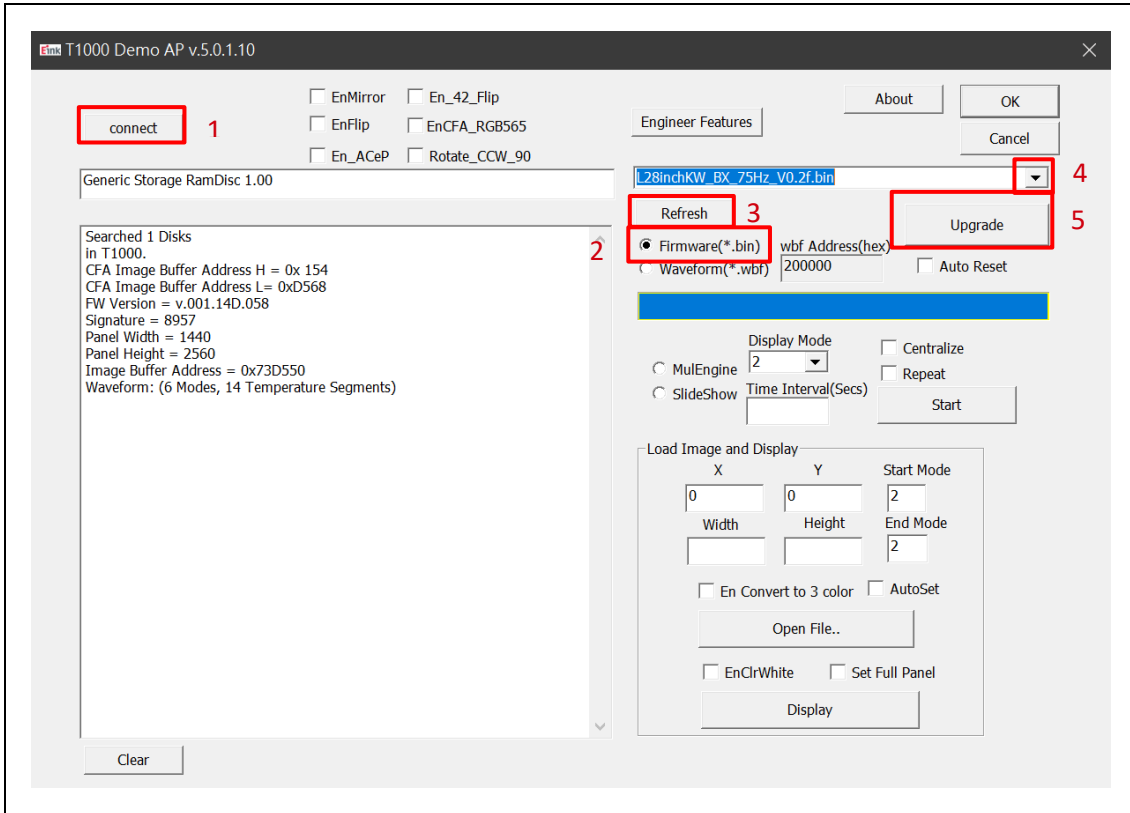

Figure 3.4
- Execute T1000 Demo AP(refer to Figure 3.4)